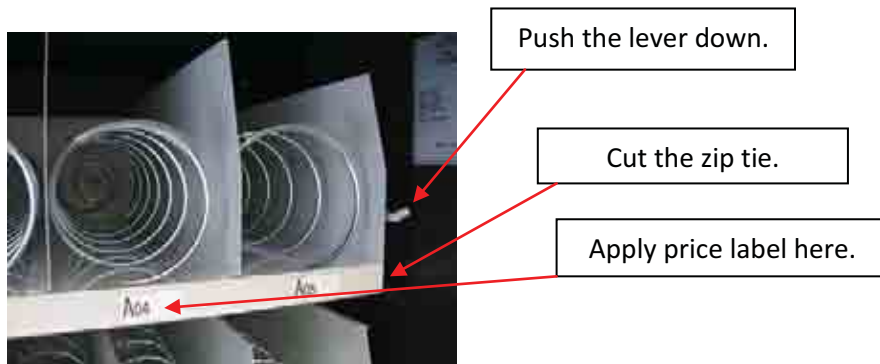

Figure 18 – Zip tie and lever
- b. CAREFULLY cut the zip ties that secure the wheels of the three product trays (*Figure 18*).
- c. Hold the white lever down (*Figure 18*) and pull the product tray towards you.
- h. Put price labels on each bin location on the snack tray (*figure 18*).